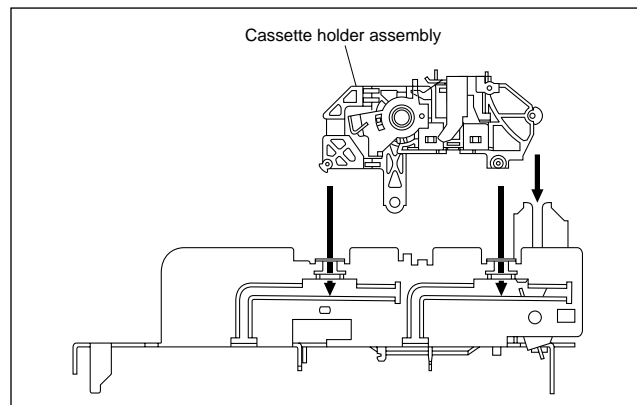
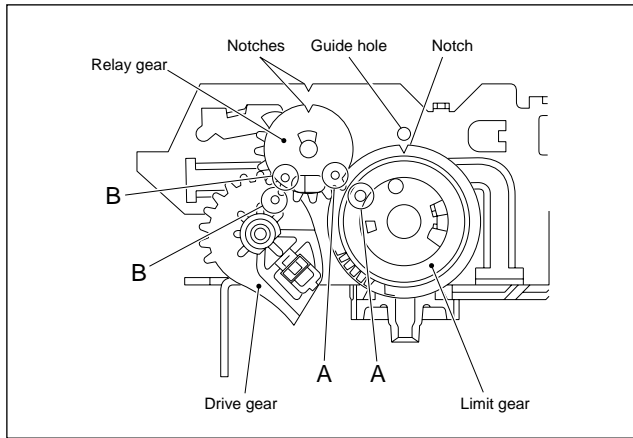

Fig. 2-2-3h
Fig. 2-2-3i
- (5) Drop the three legs on the left side of the cassette holder assembly into the groove at one time. (See Fig.2-2-3h.)
- (6) Slide the whole cassette holder assembly toward the front to bring it to the eject end position.
- (7) Install the limit gear so that the notch on the outer circumference of the limit gear is brought into alignment with the guide hole on the main deck. (See Fig.2-2-3i.)
- (8) Install so that the notch on the periphery of the relay gear is aligned with the notch of the main deck and that hole A of the relay gear is aligned with the hole A of the limit gear and that hole B of the relay gear is aligned with the hole B of the drive gear. (See Fig.2-2-3i.)
- (9) Install the door opener, opener guide, spring(A) and cassette housing bracket and fasten the two slit washers.